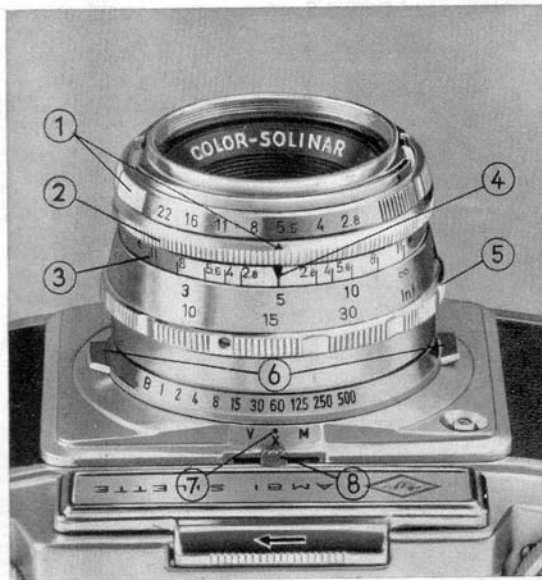

Fig. 19
An indication of the depth of field is also given by the depth-of-field scale ③ (Fig. 19) on the focusing ring. For example in Fig. 19 the distance focused on is 15 feet (5 m.). The stop numbers are equally spaced on either side of the central index mark ④. If then the lens is stopped down to $f/5.6$, the distances on the focusing scale corresponding to the two $f/5.6$ readings on either side show the range of sharp focus for this stop and subject distance, viz. about 10 to 30 feet (3.30 to 10 m.).
Two-Point Focusing is the simplest and most convenient practical way of dealing with depth of field. The red point (between 8 and 11) on the stop scale is set against the index mark and one of the red figures on the focusing scale on the red index mark ④ (Fig. 19). The approximate depth of field is then as follows:
Use the first or second finger to rotate the setting ring by means of the finger grips until the required shutter speed comes opposite the index mark ⑦ (Fig. 19).
The Synchro Compur shutter is provided with delayed action (selftimer). The synchronizing lever ⑧ (Fig. 19) is set to "V" **which, however, can be done only after the shutter has been wound**, i. e. after the film wind lever has been operated. The time interval between the release being pressed and the operation of the shutter is about 8 seconds. The lever returns then automatically to X. If the lever will not remain on "V" this indicates that the film has not been moved on, i. e. the shutter
Most of the commercial flash bulbs can be used for two types of synchronization, i. e. the firing delay (time interval between making contact and firing of flash) can be altered by the shutter. It is thus possible to vary the shutter speeds as follows: With synchronizing lever ⑧ (Fig. 19) set